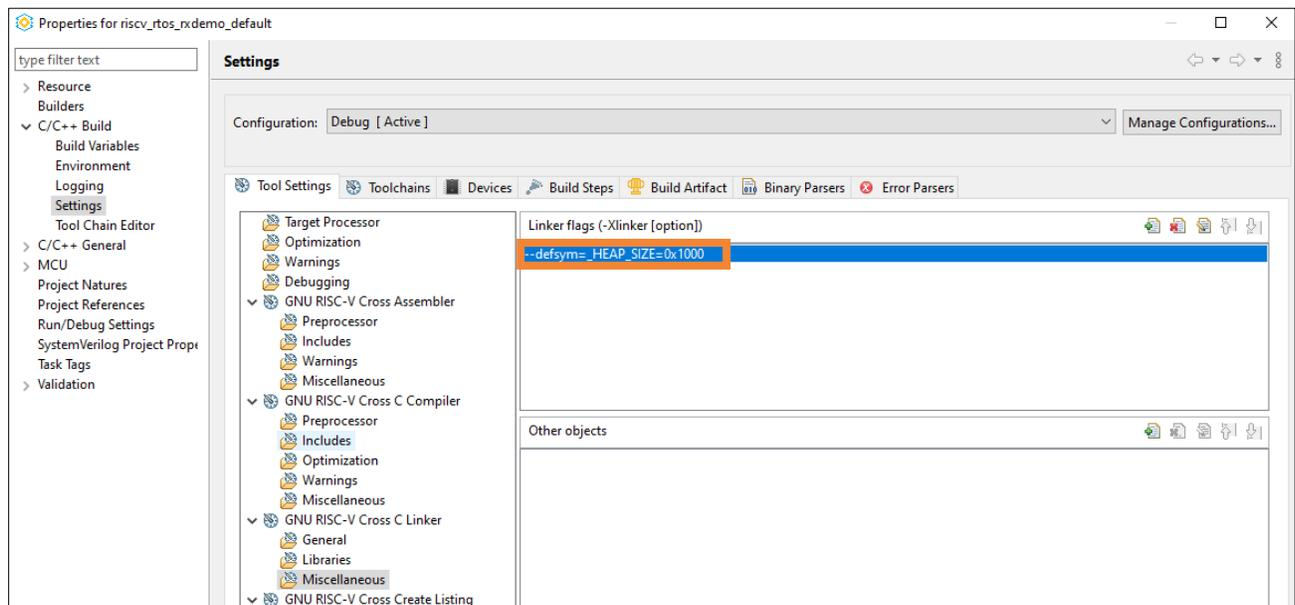

Figure 6.13. --defsym=_HEAP_SIZE=0x1000 Linker Flag
6. Select **GNU RISC-V Cross C Linker > Miscellaneous**. Add the linker flag, --defsym=_HEAP_SIZE=0x1000 (Figure 6.13).